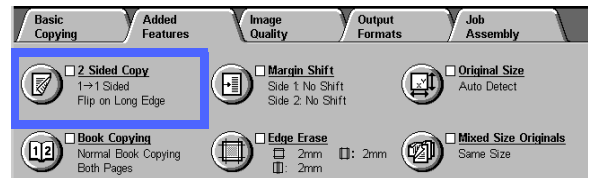

Figure 2: 2 Sided Copying feature on the Basic Copying tab
- 1 On the Added Features tab, locate and touch the **2 Sided Copy** feature, as in Figure 2.